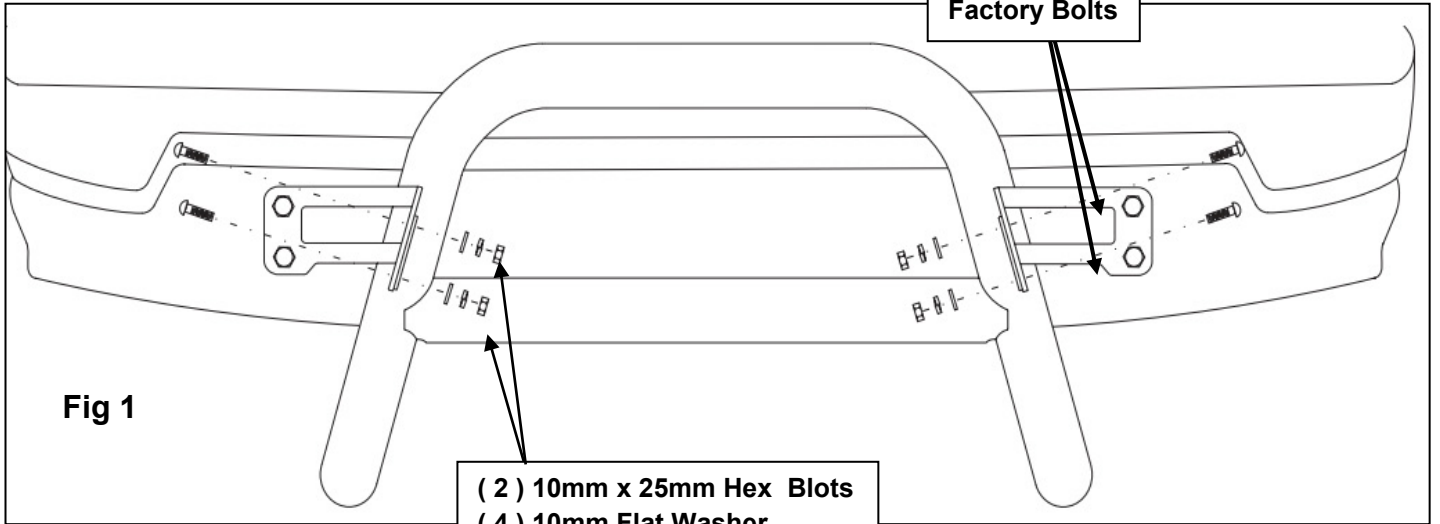

Fig 1
- Determine passenger and driver brackets. **(SEE Figure 1)**.
- Locate Passenger Side Mounting Bracket and loosely attach it to vehicle by using the factory bolts removed in step two **(Figure 1)**. Passenger Side shown in Figure 3. Repeat this step for Driver Side Mounting Bracket.
- Attach Bull Bar to bracket using 10mm fasteners as shown. Leave loose. **(SEE Figure 1)**.